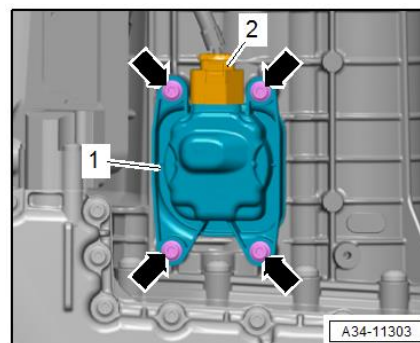

Figure 1. Gear Oil Pump V533.
- When removing the pump disconnect the connector (position 2 in Fig. 1) only after the transmission fluid drains out to avoid gear oil contamination of the electrical connector.